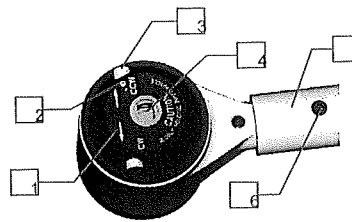

Fig 2. Input Detail
- 7.1 If you decide to use a **non-impact** power drive to speed up the process of tightening or loosening fasteners, you **MUST** remember to lock the selector pawl in the neutral position. Center the selector pawl (Fig. 2 Item 3) between the CW/CCW range of the travel and tighten the setscrew (Fig. 2 Item 2). When properly positioned, the screw will be seated in a groove in the selector pawl, so the pawl cannot be moved in either direction. Take care that the power drive is set to deliver no more than the maximum allowable input torque. A lightweight, reversible air motor is available for use with this line of multipliers. When equipped with the optional air pressure regulator, torque output can be controlled.